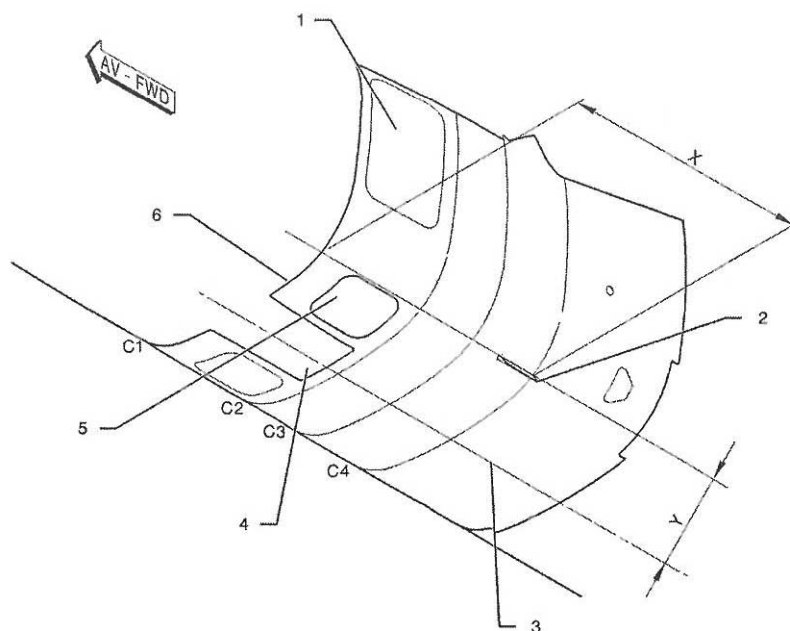
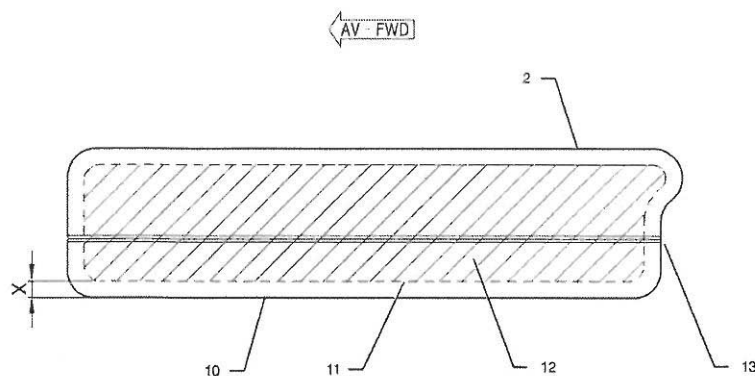

Figure 1: Positioning of the Strake Aircraft with 5 blades
Figure 2: Pickling
A. Preparation - see Figure 1:
B. Bonding of the Strake – see Figures 1 and 2
- 1) Draw aircraft centerline (3) between frame C1 and frame C5.
- 2) As per Figure 1, position the strake rear part (13) at 42.52 inch (1080 mm) from frame C1 (6) and at 18.19 inch (462 mm) from aircraft centerline (3).
- 3) Use the strike (2) as a template to draw its outer contour (10).
- 4) As per Figure 2, draw the limit of the surface to be pickled (11).
- 5) With abrasive cloth Grit No. 180, pickle the surface (12).